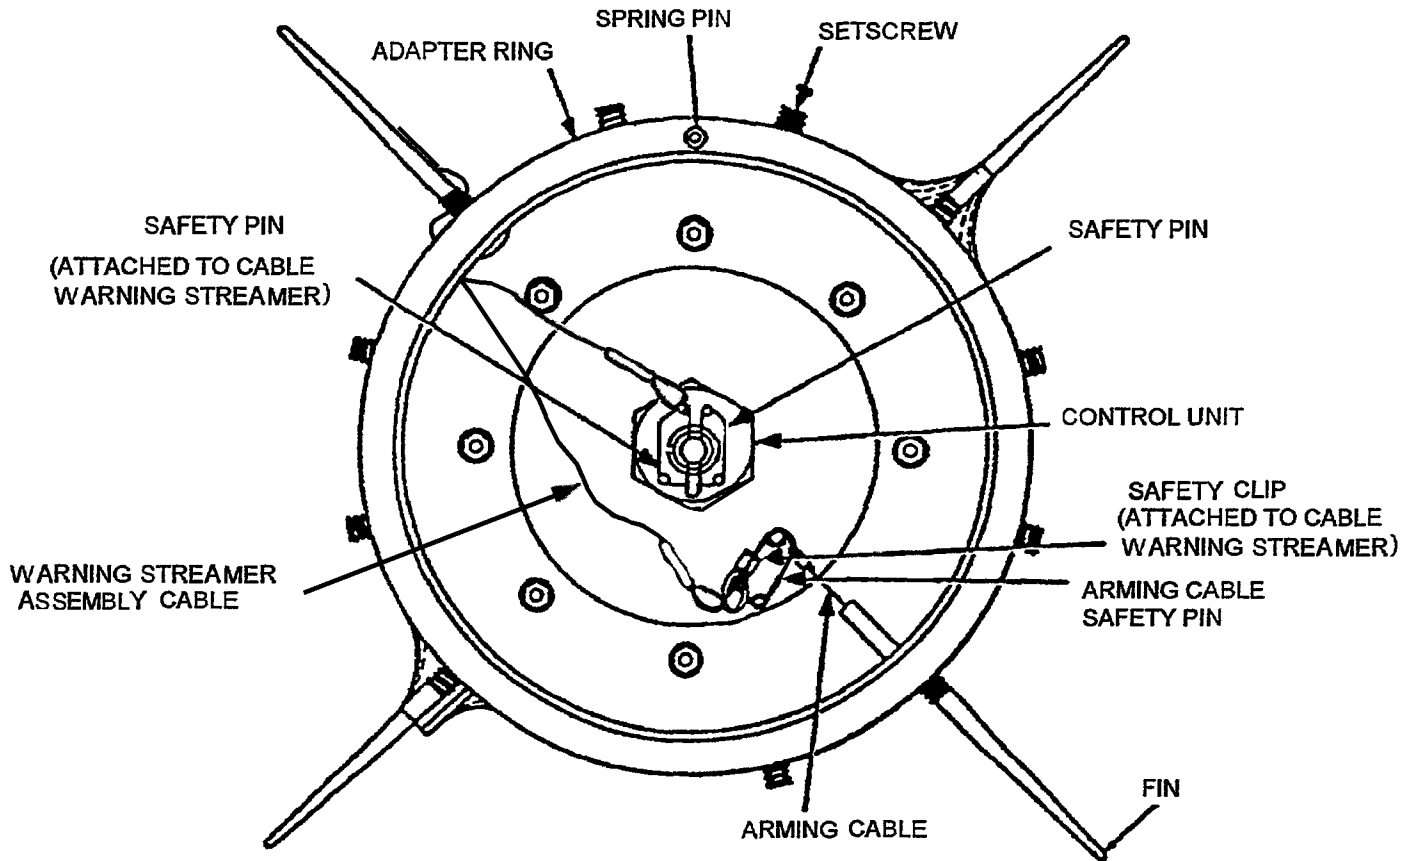

Figure 4-12B. Tail Section Mk 12 Control Unit
- a. Check control unit, inside tail section, and verify that two safety pins are installed as shown in Figure 4-12B. If ECI 0285 has been performed, the safety pins will be attached to cables from the warning streamer. If ECI 0285 has not been performed, the safety pins will be attached to cables from the safety harness.
- d. X Fin Orientation: Position tail section near aft end of bomb. Orient the section so that the spring pin (Figure 4-12B) on the section aligns with the topmost (12 o'clock) index pin hole on the bomb.
- a. Reach into the access holes in tail section and free the arming cable safety pin from the loop on the Fahnestock clip attached to warning streamer cable (Figure 4-12B).
- (1) Reach into interior of tail section and remove the free safety pin from the control unit, leaving the safety pin attached to warning streamer in place. If necessary, rotate control unit housing to orient safety pin vertically, as shown (Figure 4-12B).
- (1) Reach into interior of tail section and remove free safety pin from the control unit, leaving the safety pin attached to warning streamer or safety harness in place. If necessary, rotate control unit housing to orient safety pin vertically (Figure 4-12B).